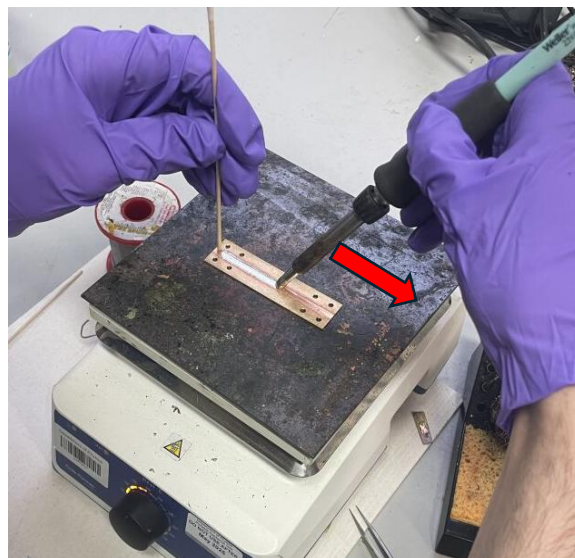

Fig. 4: Pre-tinning the sample holder.
- f) When solder begins to flow, sweep the soldering iron SLOWLY along the length of the sample holder. Ensure an area larger than the sample is thinly but completely covered and go back over areas as needed, applying more flux if necessary. See fig.4.